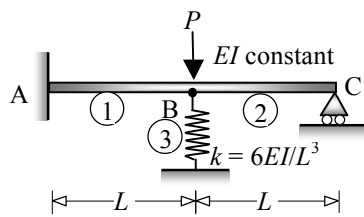

Fig. 7
5. Analyse the spring-supported beam shown in Fig. 7 by any method of your choice (stiffness or flexibility) and hence (i) find the deflection at B and (ii) draw the bending moment diagram of the beam. The spring stiffness is given by $6EI/L^3$, where EI is the flexural rigidity of the beam.